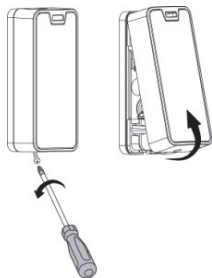

Figure 1
1. Open the vibration detector housing (see Figure 1).